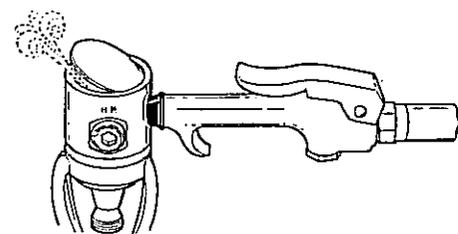

FIGURE 2
9. Secure the dust cap (Item 26) in place by means of the yoke screw (Item 24). Using the low-pressure filtered air directed down through a low-pressure port on the first-stage body (Item 1), blow out the primary diaphragm (Item 7). (See Figure 2). Discard the used diaphragm. (SEE NOTE A →)